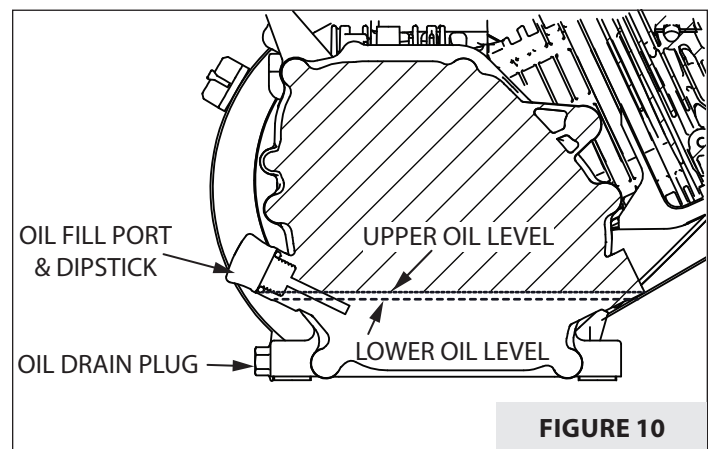

FIGURE 10
2. Remove oil drain plug and empty oil into suitable oil container. Dispose of oil properly. **SEE FIGURE 10.**
3. Reinstall drain plug. Remove dipstick (if applicable) or oil fill cap. **SEE FIGURE 10.**
4. Fill with appropriate oil to "FULL" or top line of dipstick; otherwise to top thread of oil fill hole. **SEE FIGURE 10.**